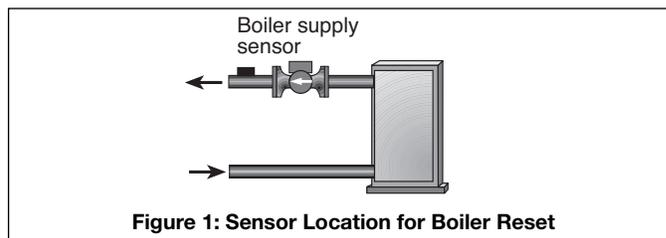

Figure 1: Sensor Location for Boiler Reset
- Water temperature sensors should be located as shown in Figures 1 (boiler reset) & 3 (mix reset).